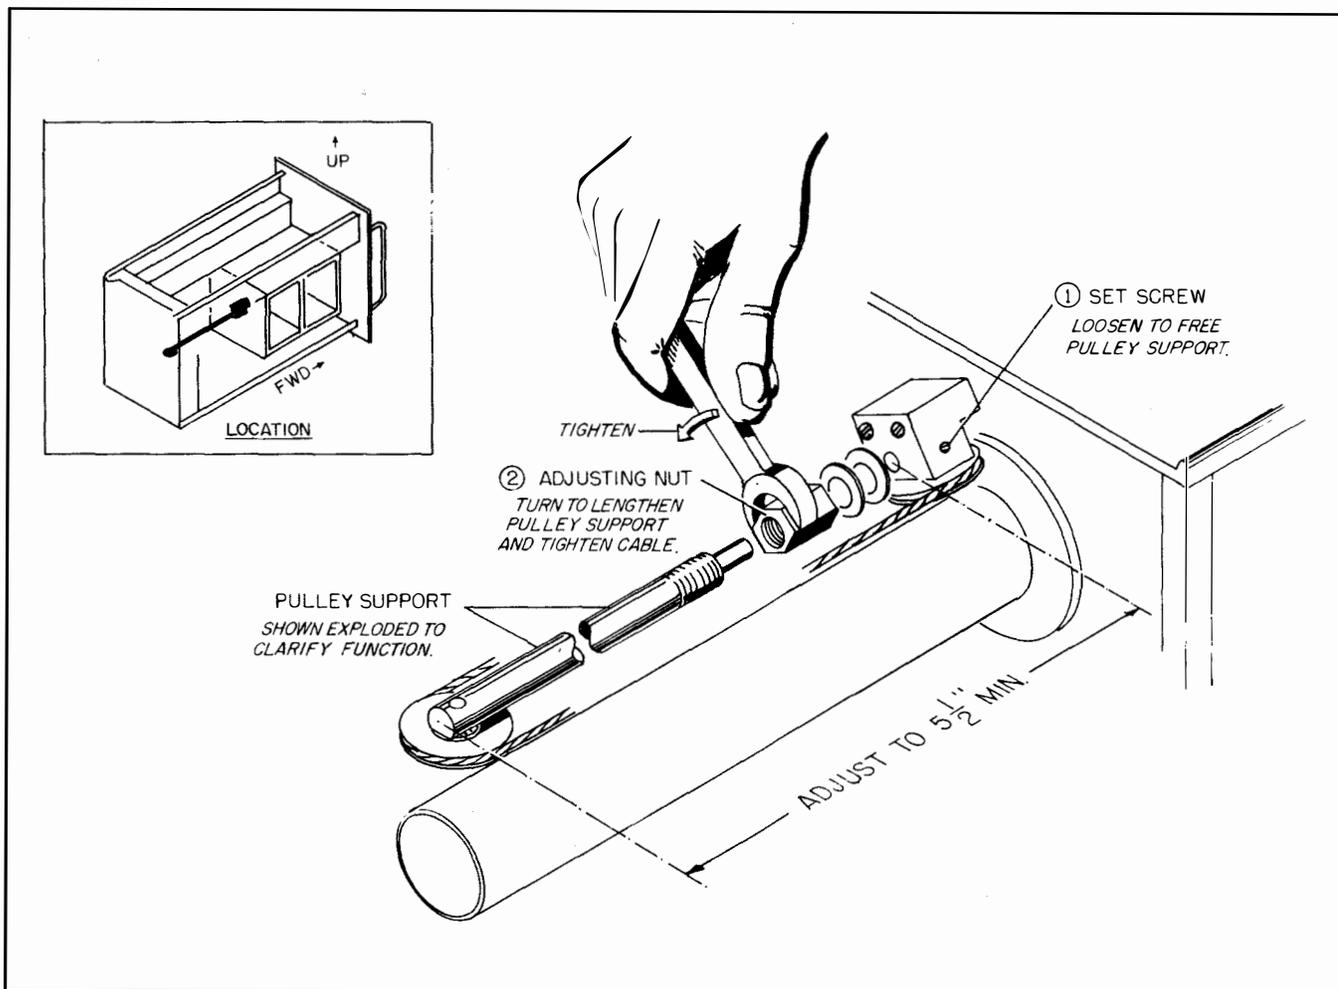

Figure 6-5. Diagram Showing Adjustment of Cable Tension for Output Attenuator Drive System
mounts the rear pulley (see Figure 6-5). The shaft is threaded a short distance at the seating end and the depth of seating is determined by the position of the nut on the shaft. The nut is forced against the mounting block face by the tightness of the drive cable and an Allen set screw, when tightened in the mounting block, prevents the shaft from turning. If, due to physical damage or wear, the cable must be replaced, a new cable of the same type should be obtained and installed as instructed below. It is possible with care, to replace the cable so that a minimum of recalibration will be necessary. To replace the attenuator drive cable, proceed as follows:
- c. Referring to Figure 6-5, measure and note the exact distance from face of mounting block to end of rear pulley support shaft.